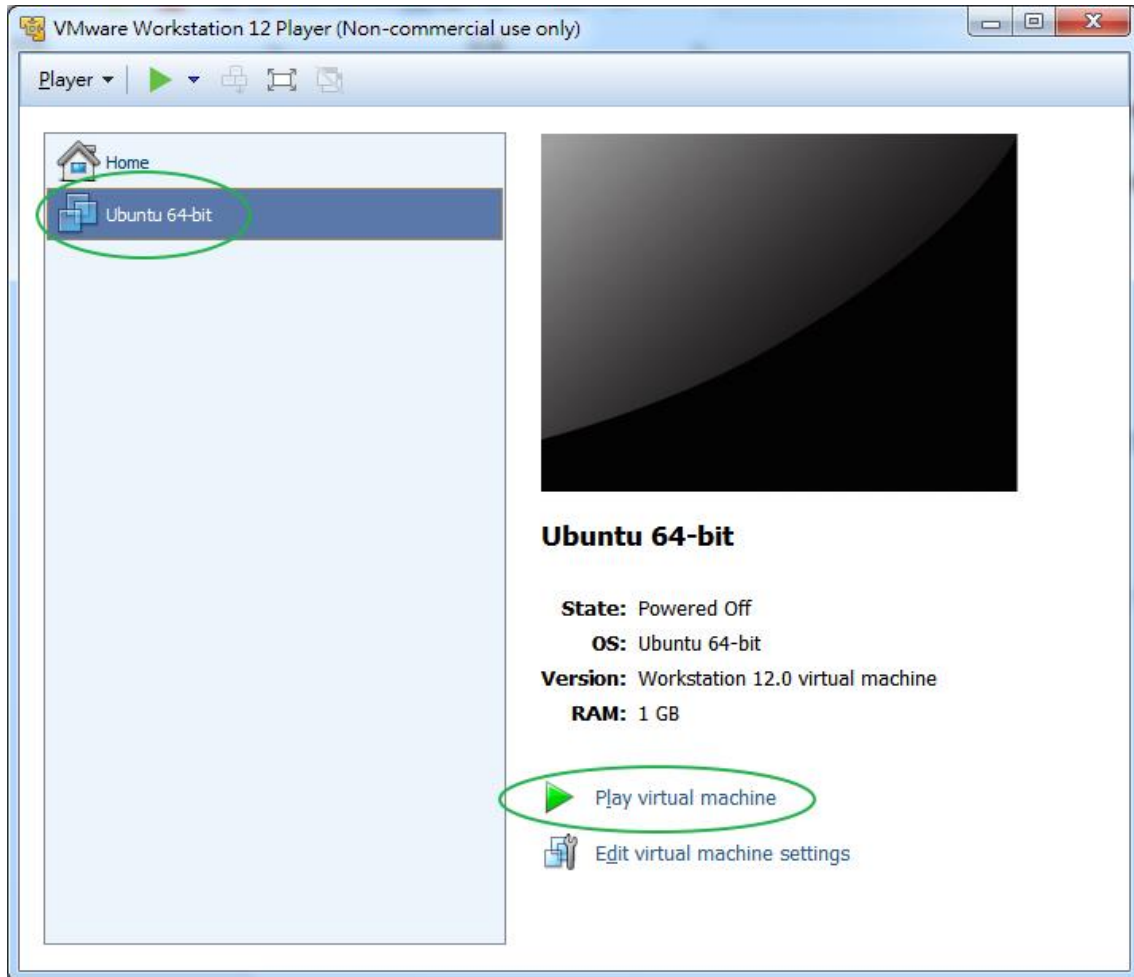

Figure 2-27 Start Ubuntu
2. Select the "Ubuntu 64-bit" item and click "Play virtual machine" button to start Ubuntu as shown in **Figure 2-27**.